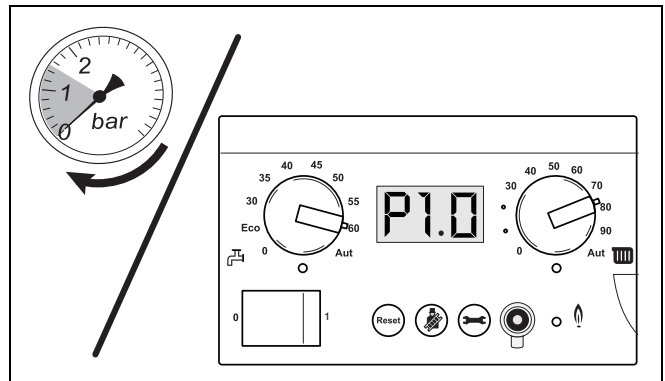

fig. 13 Reading the pressure gauge
- Read the pressure from the pressure gauge on the pump group or on the control panel of the BC10 (fig. 13).